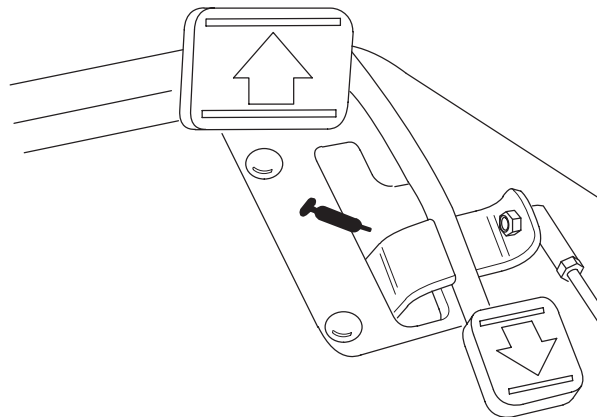

Figure 34
- Traction pedal pivot (1) (Fig. 34)